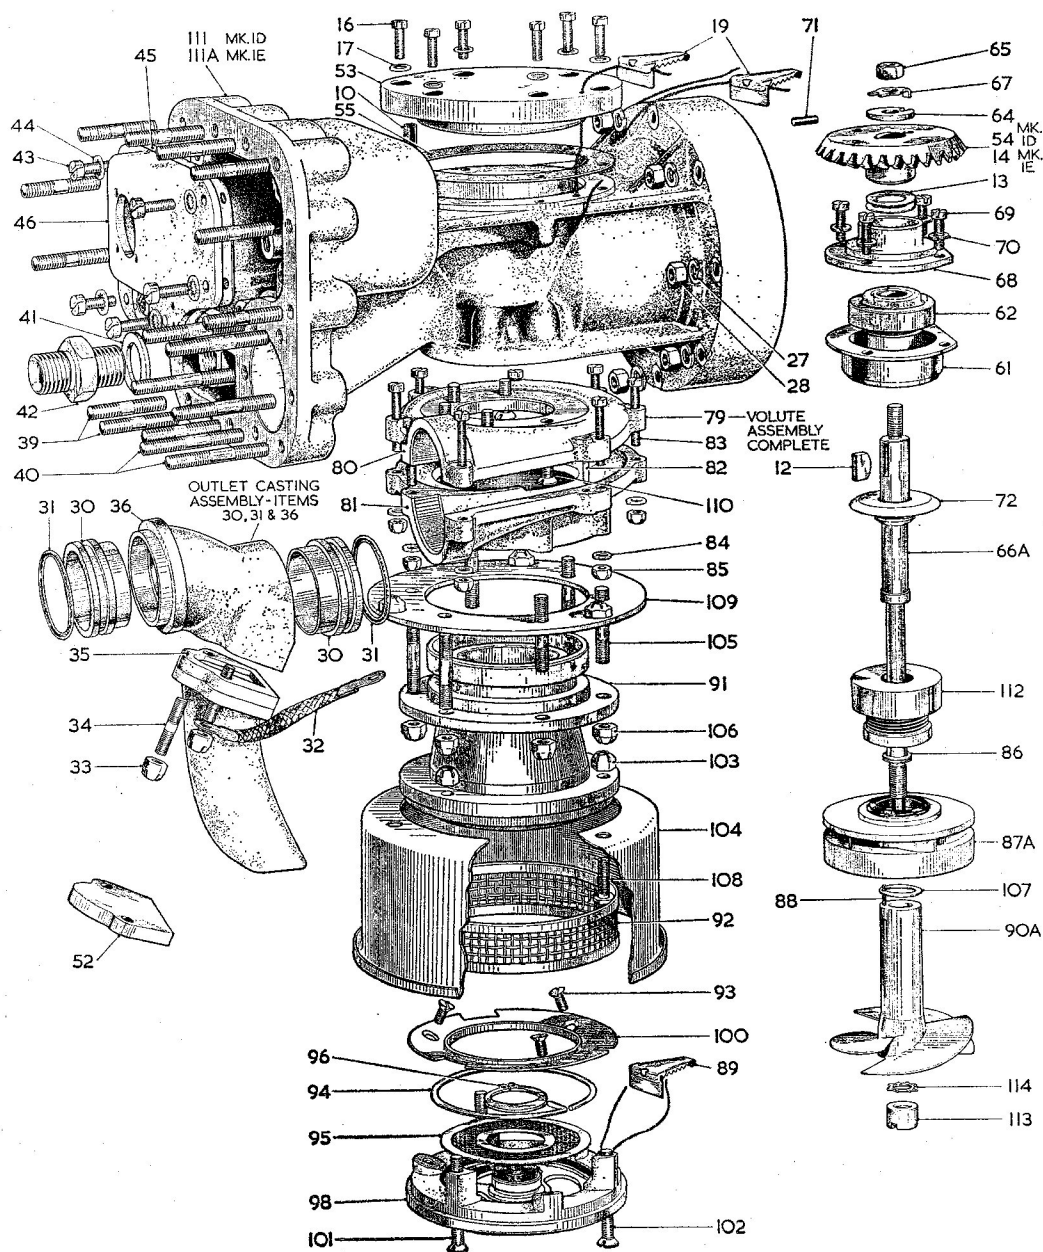

Fig. 3. Exploded view of pump unit (SPE. 404 Mk. 1D and 1E)
casing. Generally as for Mk. 1G but no brush box rivet insulator (121, fig. 3) is fitted. The brush box assembly with a thicker carrier plate is used in place of (120).
(4) Assembling the motor end casing sub-assemblies. Generally as for Mk. 1G but no alignment hole and slot in the end casing and stator assembly respectively.
(5) Pre-bedding the brushes.
(6) Determining the brush gear geo-
(b) Pre-heat the pump casting (111-Mk. 1D, 111A-Mk. 1E, app. 1, fig. 3) to between 125 and 150°C. Smear the shroud of the bellows unit with 'Well-seal' jointing. Insert the bellows unit into the pump casting using the tools illustrated in App. 1, Fig. 8 in the hand press SPE. 10143. Turn the
(9) Assembling the volute.
(10) Assembling the delivery outlet.
(11) Assembling the volute assembly to the pump casting.
(12) Assembling the upper bearing and pump shaft. Generally as for the Mk. 1G but the pump shaft is of different design to suit the bellows gland.
(13) Shimming the centrifugal impeller. Generally as for the Mk. 1G pump but the impeller incorporates a carbon gland seating (87A) in place of (87, fig. 3).
(14) Assembling the helix casing and impeller. Use impeller helix (90A, app. 1, fig. 3) in place of (90, fig. 3). Use a shakeproof washer (114, app. 1, fig. 3) and the round nut (113) to secure the helix. Tighten the nut with the special driver SPE. 13831 (app. 1, fig. 4).
Key to Fig. 3